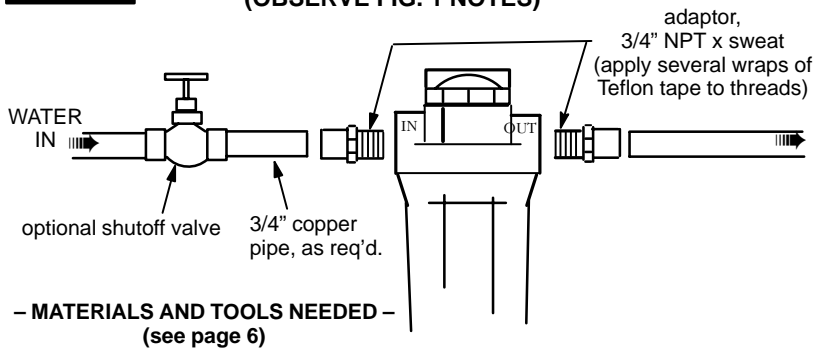

FIG. 3 THREADED INSTALLATION
C. THREADED PIPE AND FITTINGS, FIG. 3
MATERIALS AND TOOLS NEEDED: For threaded pipe installation, you will need a pipe threading tool, pipe wrenches, pipe joint compound, union fittings and pipe nipples. Connect the filter housing as typically shown in FIG. 3, page 5. Observe the following: